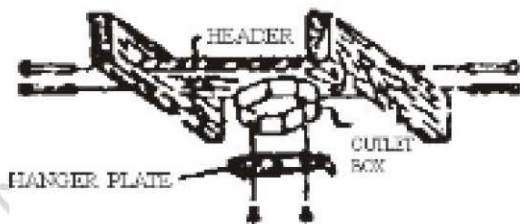

Fig.1
1. Using two screws fasten hanger plate or J hook, to ceiling outlet box as shown in Fig.1